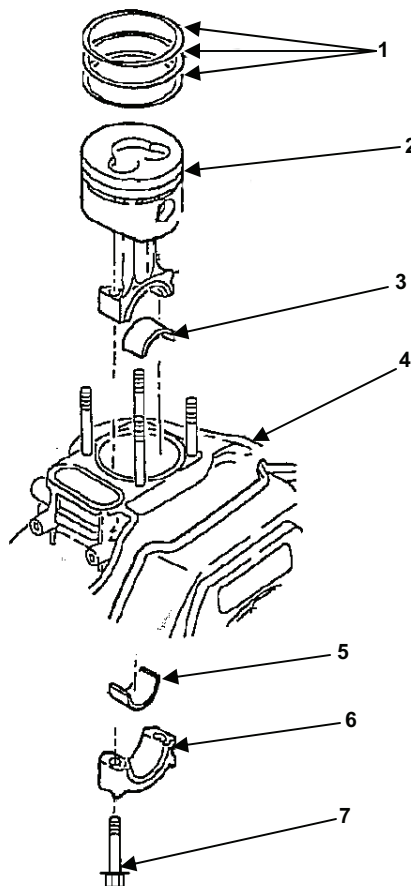

Figure 1. Connecting Rod Removal.
2. Rotate the crankshaft so the connecting rod bolts (Figure 1, item 7) are accessible and remove them.
3. Remove the piston (Figure 1, item 2) from the engine block (Figure 1, item 4).
4. Remove the upper (Figure 1, item 3) and lower (Figure 1, item 5) journal bearings only if necessary.
5. Remove the piston rings (Figure 1, item 1) if necessary.